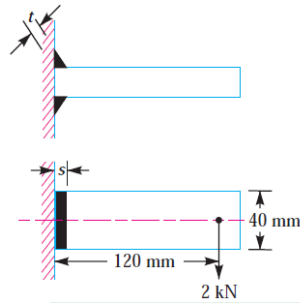

Figure 4
- Q5.** A welded joint as shown in Fig. 4, is subjected to an eccentric load of 2 kN. Find the size of weld, if the maximum shear stress in the weld is 25 MPa.